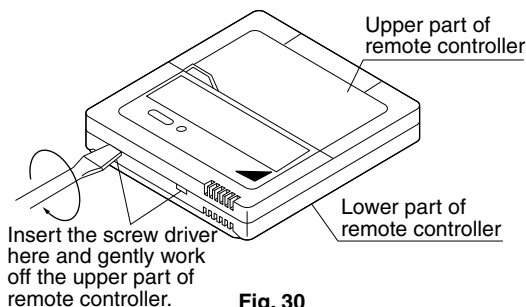

Fig. 30
- Insert a $\ominus$ screw driver into the recess between the upper and lower part of remote controller and, working from the 2 positions, pry off the upper part. The remote controller PC board is attached to the upper part of remote controller. (Refer to Fig. 30)